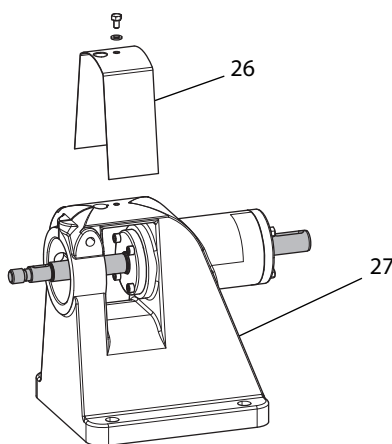

Fig. 22 Bearing block cover
6. Relubricate the cylindrical roller bearing (31). We recommend using: JAX Halo-Guard FG-2 bearing grease or alternatively a white NSF H1 grease. Alternatively, use an equivalent brand of lubricant of similar quality and viscosity. See Table 4, "Bearing grease amounts: model KF".
10. Mount the bearing cap (32).
11. Remount the cover (26) on the bearing block (27); see Fig. 22, "Bearing block cover," page 16.